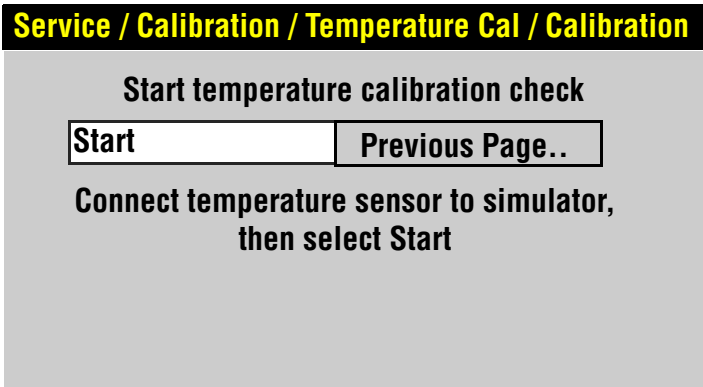

Figure 6.5—Starting calibration check
- 5. To initiate Temperature Calibration Check, select Calibrate from the Service / Calibration / Temperature Cal menu. The screen shown in Figure 6.5 appears.